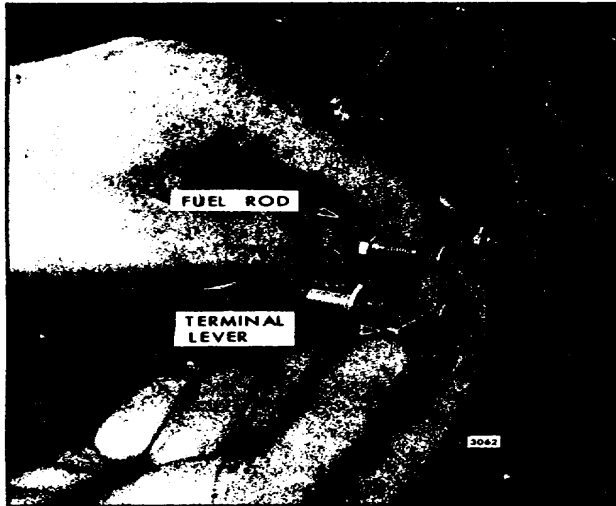

Fig. 3 · Adjusting Length of Fuel Rod
5. Hold the injector rack control tube and the terminal lever in the *full-fuel* position and adjust the length of the fuel rod until the end bearing or ball joint will slide freely into the hole of the terminal lever as shown in Fig. 3. Tighten the lock nut to retain the ball